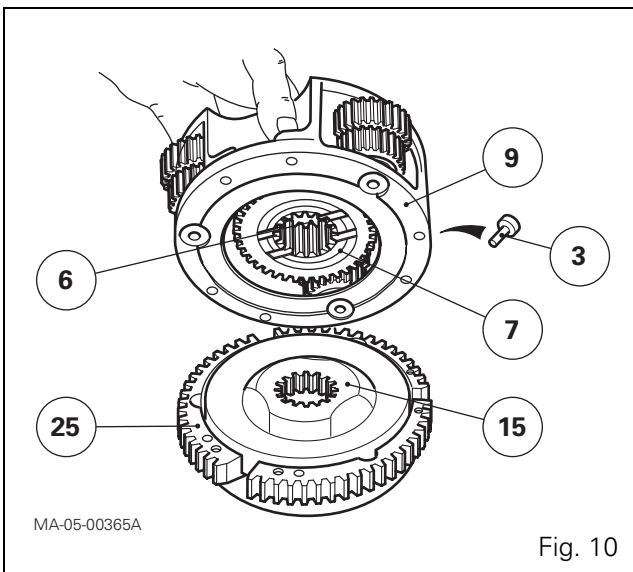

Fig. 10
- 17.** Put the planet carrier assembly on a workbench with the unit (9) turned upwards.
- 18.** Remove the screws (3).
- 19.** Separate the unit (9) from the hydraulic cover plate (25) while holding sun gears (6) and (7) (Fig. 10).
47. Install the splined hub (15) as shown in Fig. 10.
48. Install an intermediate plate (30), a disc (42) and a spring washer (43). Continue stacking parts, ending with an intermediate plate.
49. Screw two diametrically opposed guide studs in the hydraulic cover plate (25).
50. Assemble the planet carrier unit (9) on the hydraulic cover plate (25) while holding the sun gears (6) and (7) (Fig. 10).